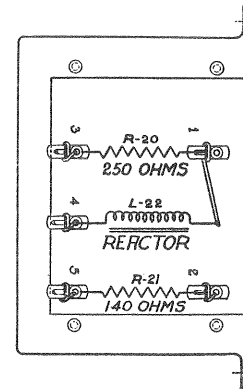

Fig. 19—Microphone Reactor Terminals and Connections
- d. Short in either of the resistors on reactor unit Fig. 19.
- g. Open reactor coil on reactor unit, Fig. 19.